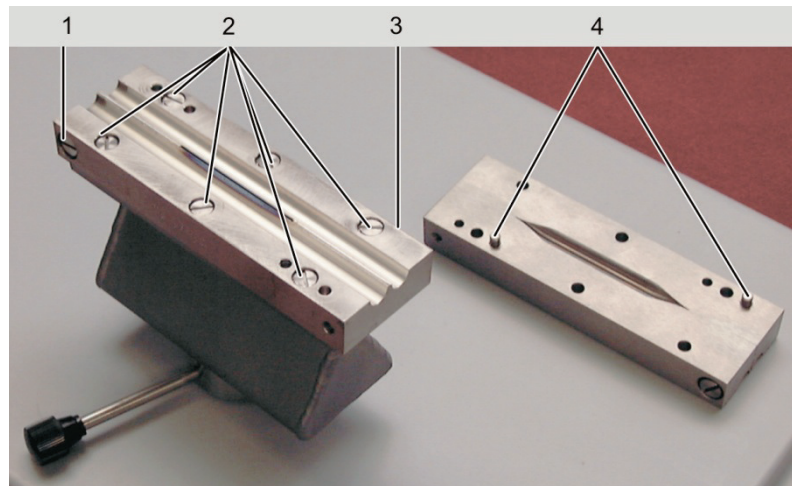

Fig. 62 Fittings of the burner
3. Undo the fittings (2 in Fig. 62) of the burner jaws on the burner body and remove the burner jaws.
4. Undo the fittings of the burner jaws against each other (1 and 3 in Fig. 62).
8. Screw the burner jaws onto the burner body, the dowel pins (4 in Fig. 62) on the burner ensure correct positioning.